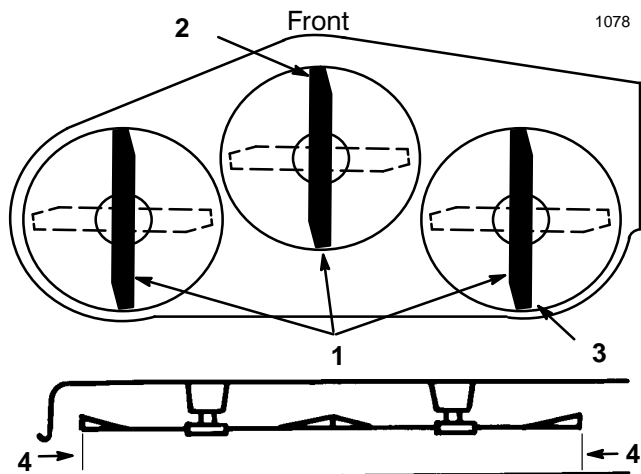

Figure 13
4. Carefully rotate blades so they are facing front and rear (Fig. 13).
5. Measure between the tip of the front blade (Fig. 13). and the tip of the rear blade to the flat surface. If the front blade tip is not 0–3/8" (0–9.5 mm) lower than the rear blade tip adjust front adjustment links.